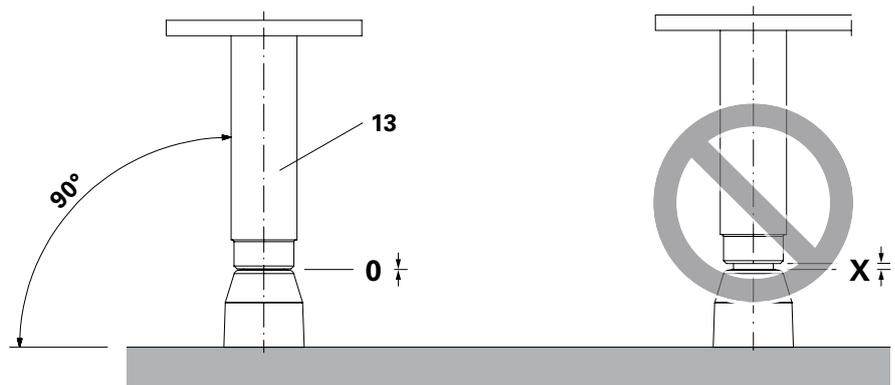

Fig. A5.02b
4. Screw in the Anchor Sleeve M24 (13) as far as possible, at 90° to the formlining. (Fig. A5.02b)
5. Secure the Anchor Sleeve M24 (13) in the reinforcement with tie wire to ensure that it does not change its position during concreting.